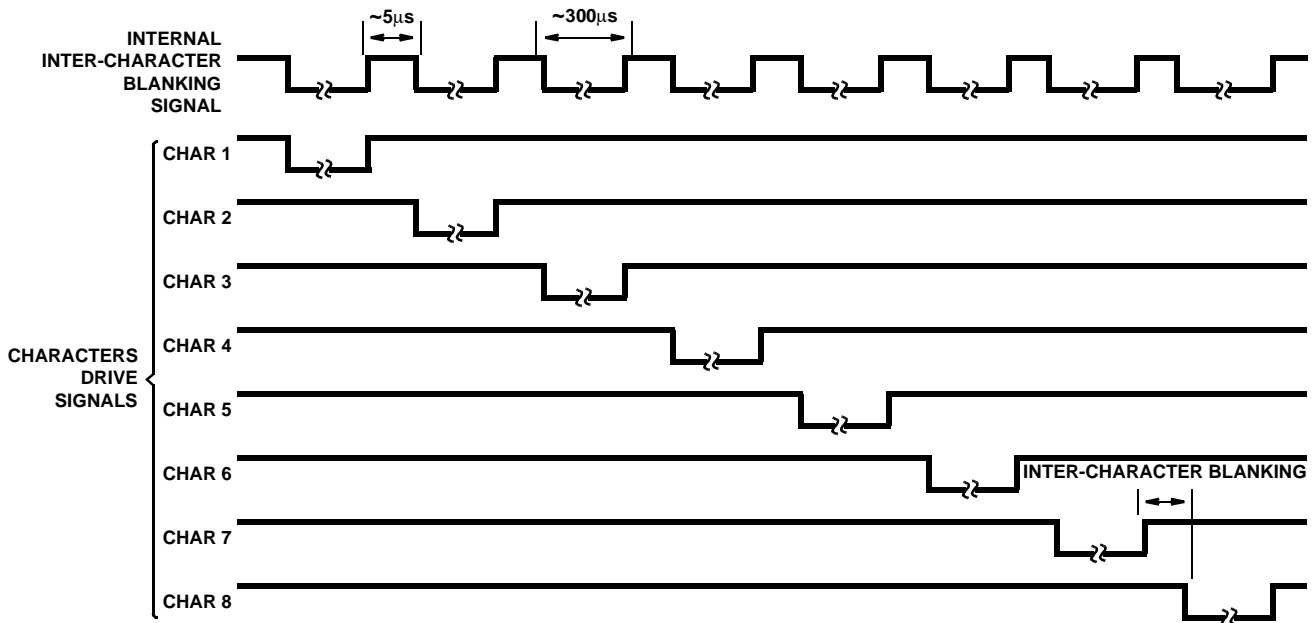

FIGURE 3. DISPLAY CHARACTERS MULTIPLEX TIMING DIAGRAM
**Random Access Mode** - When the internal mode latch is set for **Random Access (RA)** (MODE latched low), the Address input on A0, A1 and A2 will be latched by the falling edge of  $\overline{WR}$  (or its equivalent). Subsequent changes on the Address lines will not affect device operation. This allows use of a multiplexed 6-bit bus controlling both address and data, with timing controlled by  $\overline{WR}$ .
**Sequential Access Mode** - If the internal latch is set for **Sequential Access (SA)**, (MODE latched high), the Serial ENable input or SEN will be latched on the falling edge of  $\overline{WR}$  (or its equivalent). The  $\overline{CLR}$  input is asynchronous, and will force-clear the Sequential Address Counter to address 000 (CHARacter 1), and set all Data Memory contents to 100000 (blank) at any time. The DISPLAY FULL output will be active in **SA** mode to indicate the overflow status of the Sequential Address Counter. If this output is low, and SEN is (latched) high, the contents of the Counter will be used to establish the Data Memory location for the Data input. The Counter is then incremented on the rising edge of  $\overline{WR}$ . If SEN is low, or DISPLAY FULL is high, no action will occur. This allows easy "daisy-chaining" of display drivers for multiple character displays in a **Sequential Access** mode.
**OSC/OFF** - The device includes a relaxation oscillator with an internal capacitor and a nominal frequency of 200kHz. By adding external capacitance to  $V_{DD}$  at the OSC/OFF pin, this frequency can be reduced as far as desired. Alternatively, an external signal can be injected on this pin. The oscillator (or external) frequency is pre-divided by 64, and then further divided by 8 in the Multiplex Counter, to drive the CHARacter drive lines (see Figure 3). An inter-character blanking signal is derived from the pre-divider. An additional comparator on the OSC/OFF input detects a level lower than the relaxation oscillator's range, and blanks the display, disables the DISPLAY FULL output (if active), and clears the pre-divider and Multiplex Counter. This puts the circuit in a low-power-dissipation mode in which all outputs are effectively open circuits, except for parasitic diodes to the supply lines. Thus a display connected to the output may be driven by another circuit (including another ICM7243) without driver conflicts.